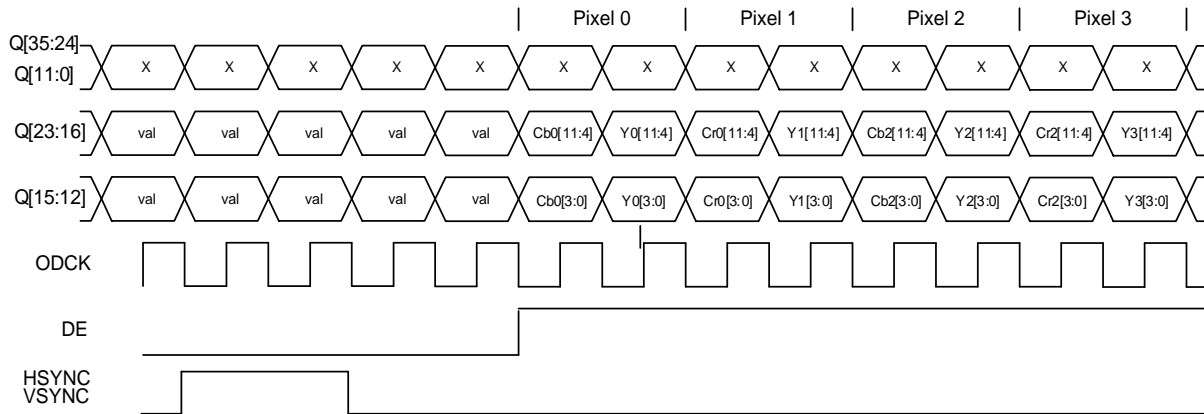

Figure 7.8. YC Mux 4:2:2 Timing Diagram
The video data is multiplexed onto fewer pins than the mapping in Table 7.8, but complete luminance (Y) and chrominance (Cb and Cr) data is still provided for each pixel because the output pixel clock runs at twice the pixel rate. Figure 7.8 on the next page shows the 24-bit mode. The 16-bit and 20-bit mappings use fewer output pins for the pixel data. The separate syncs. Figure 7.8 shows timings with OCLKDIV = 0 and OCKINV = 1.